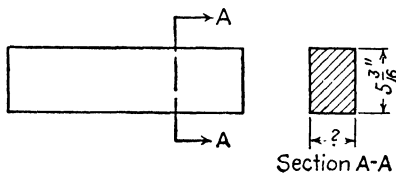

Fig. 70.
6. What must be the width of a rectangular beam whose cross-sectional area is 16.375 sq. in., and whose length is  $5\frac{3}{16}$  in. as shown in Fig. 70?